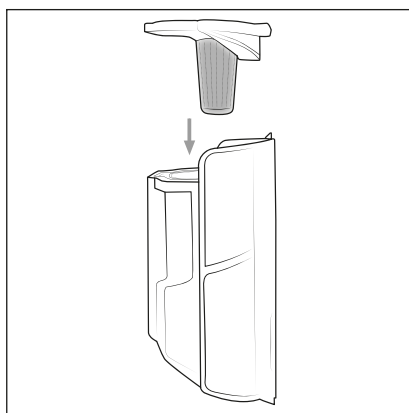

Fig. 19
- 6) Insert the stainless steel filter **6** into the dust container **7** and press it down until it sits firmly in the dust container **7** (see Fig. 19).